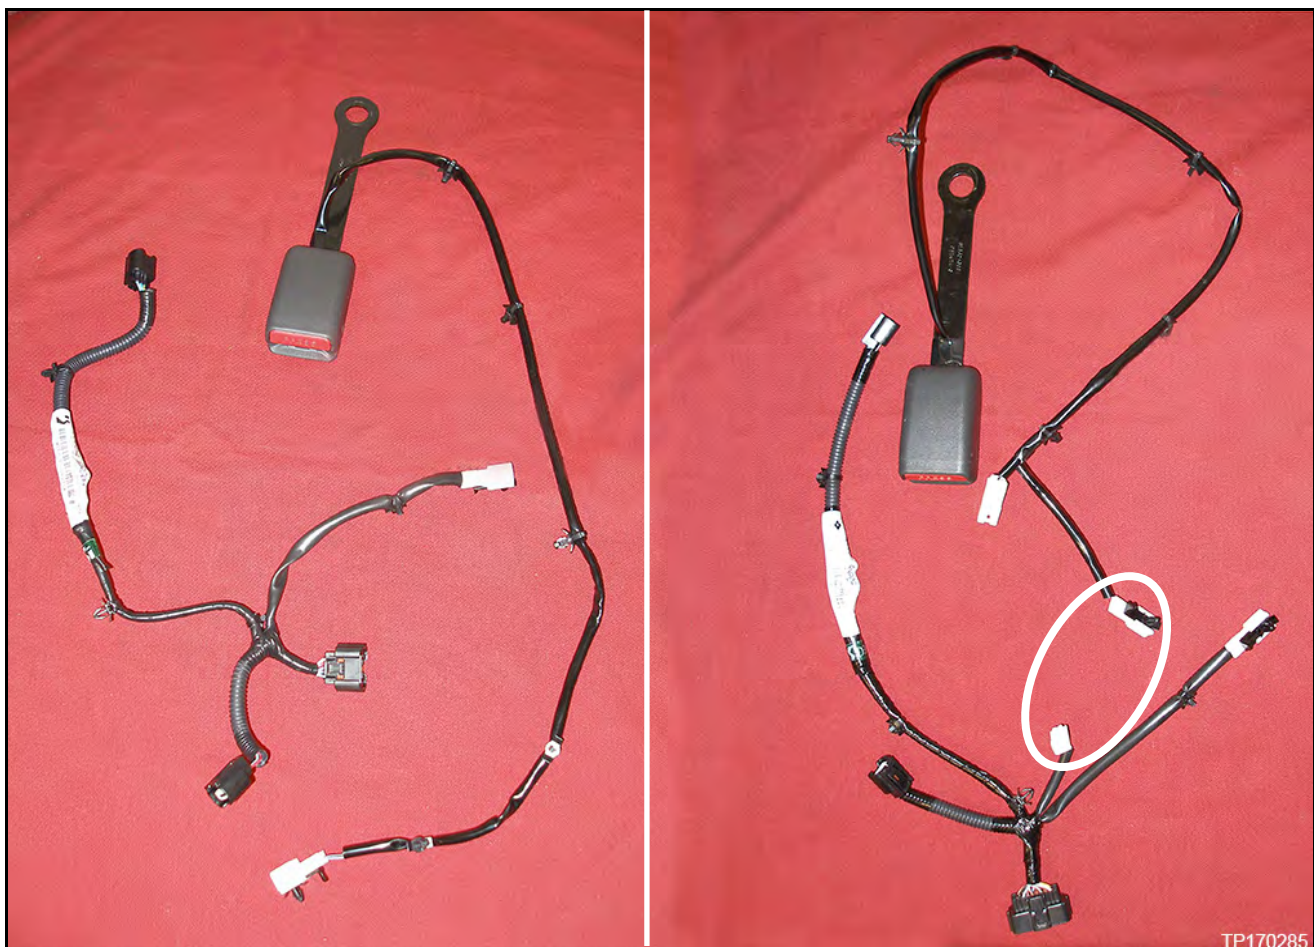

Figure 1
- Figure 1 shows the old and new parts.